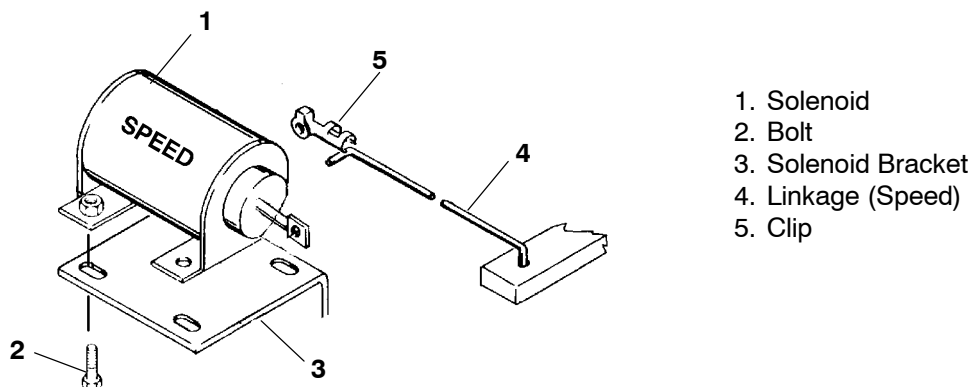

Figure 8-5. Speed Control Solenoid
- Disconnect wiring to solenoid. Disconnect linkage arm (item 4, Figure 8-5) from solenoid. Remove mounting hardware from solenoid and then remove solenoid.